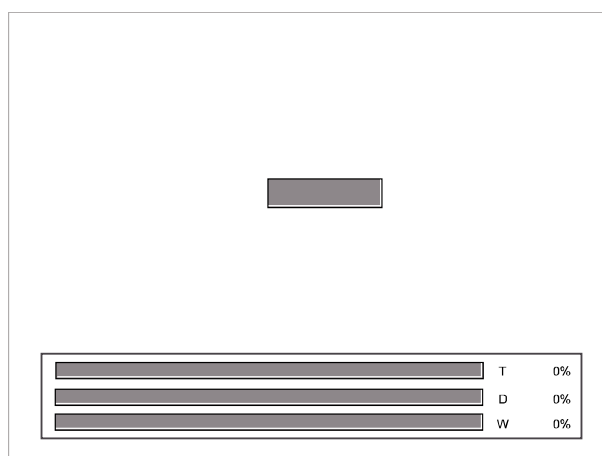

Figure 15. Firmware downloading display
5. The monitor will display the firmware upgrade screen as shown below figure 15.